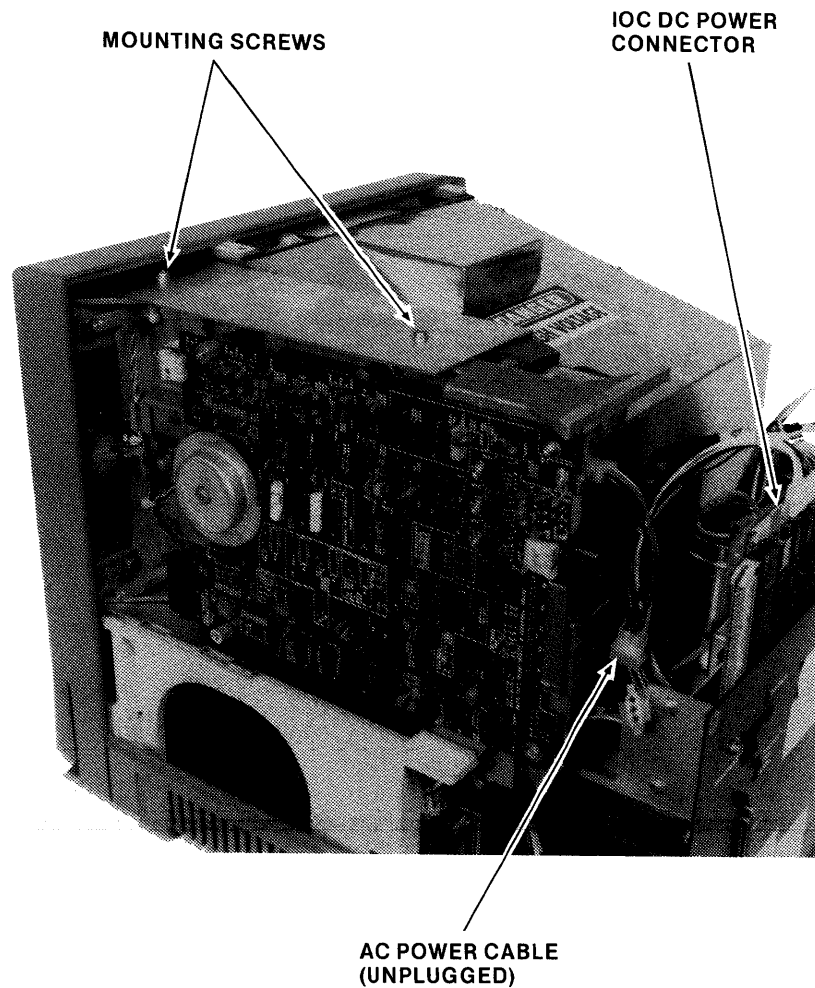

Figure 4-16. Disk Drive Installation
10. Refer to Figure 4-16. Slide the disk drive into place carefully, with the printed circuit side of the drive facing outward, and fasten it to the top of the disk drive mounting bracket using two 8-32 x 3/8 screws with #8 locking and #8 flat washers. Be careful not to damage the IOC or power supply boards.
13. Refer to Figures 4-16, 4-18, and 4-19 and connect the DC power cable (4001522) to the disk drive. Attach the other end to the DC connector on the IOC board, shown in Figures 4-16 and 4-18.